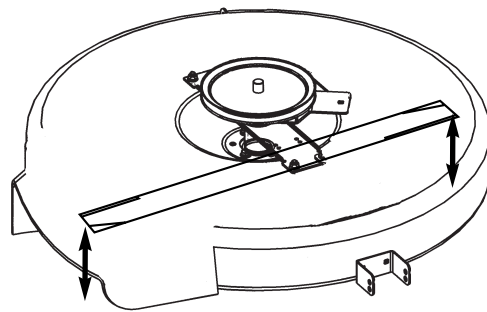

Figure 46. Orient Blades Side-to-Side
4. Set the cutting height to mid position. Arrange the mower blade so that it is pointing from side-to-side (Figure 46).